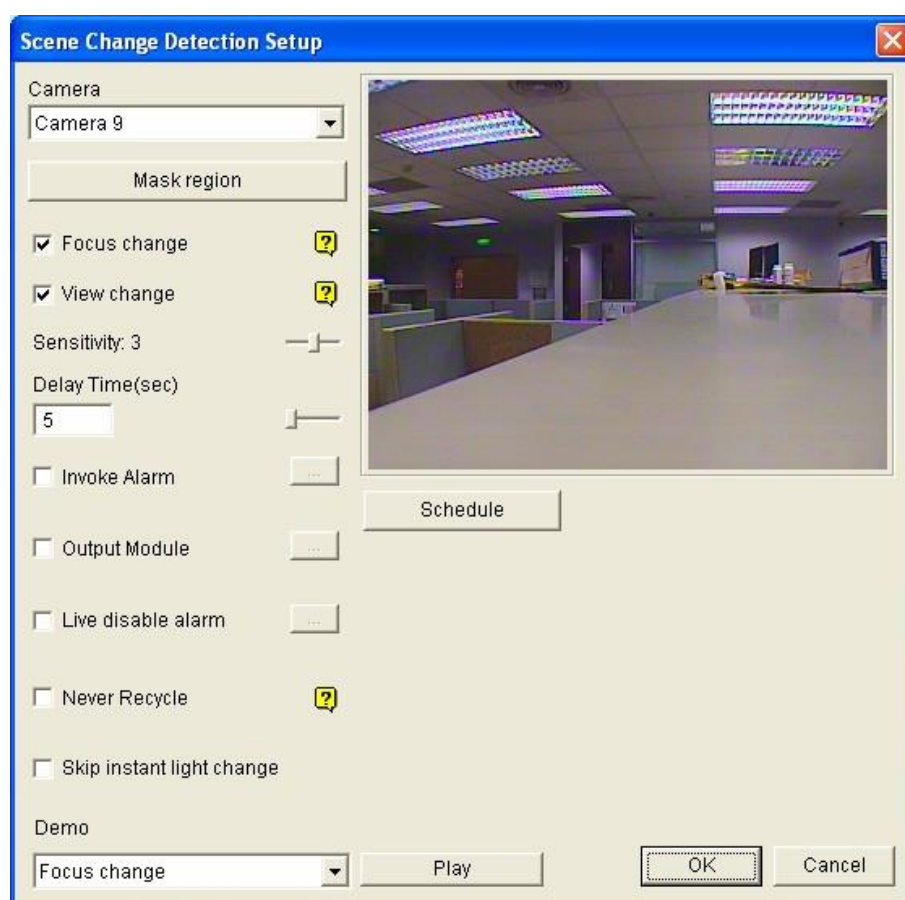

Figure 3-40 Scene Change Detection Setup
- ⑩ **Camera:** Select the camera to be configured.
- ⑩ **Mask region:** Masks off the areas where motion will be ignored.
- ⑩ **Focus change:** Generates an alert when the camera is out of focus.
- ⑩ **View change:** Generates an alert when the camera has been moved, or the lens of the camera has been covered.
- ⑩ **Sensitivity:** Adjusts detection sensitivity. The default value is 3.
- ⑩ **Delay Time(s):** Sets the duration of a scene change before an alarm condition is triggered.
- ⑩ **Invoke Alarm:** Activates the computer alarm when a scene change is detected. Click the [...] button beside to assign a .wav sound file.
- ⑩ **Output Module:** Activates the output device when a scene change is detected. Click the [...] button beside to assign the output module and pin number.
- ⑩ **Live disable alarm:** Choose whether to invoke the warning message when a scene change is detected. Click the [...] button beside to display Figure 3-40.